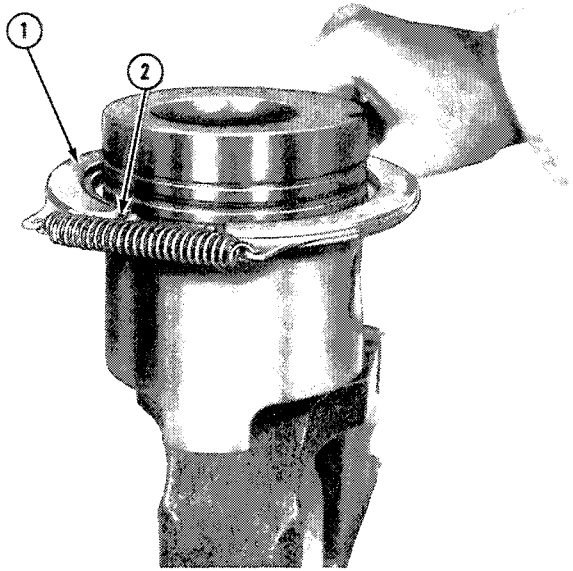

Figure 42
2. Use an expander to remove the piston rings, Figure 42.